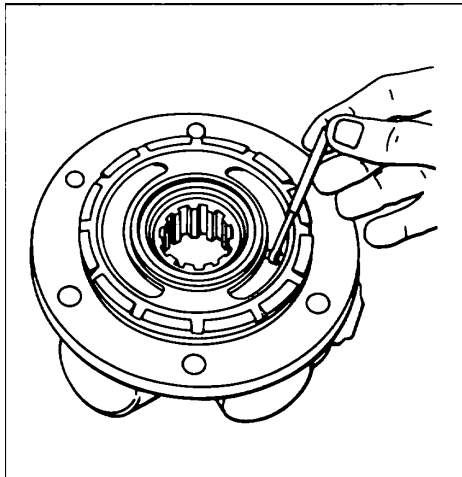

Figure 194.
b. Measure the width of the cover kidney near the mid point. See Fig 194.